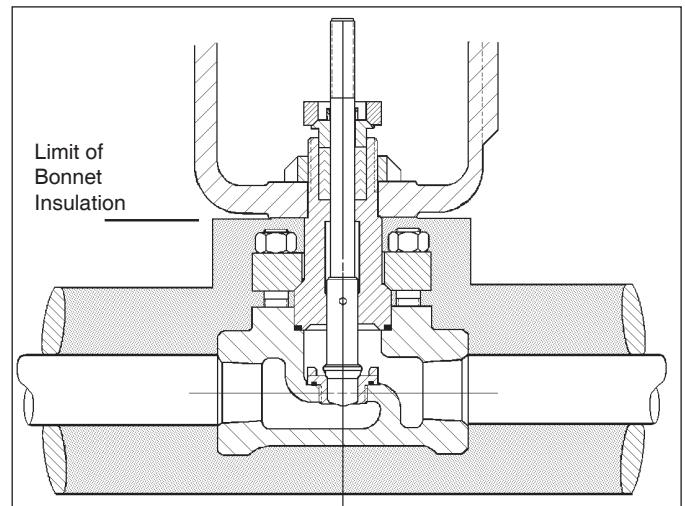

Figure 2: Body Insulation
12. Insulation may be applied as indicated in Figure 2. Drainage away from the packing area must be ensured when fully installed, sealed and lagged for outdoors installation.